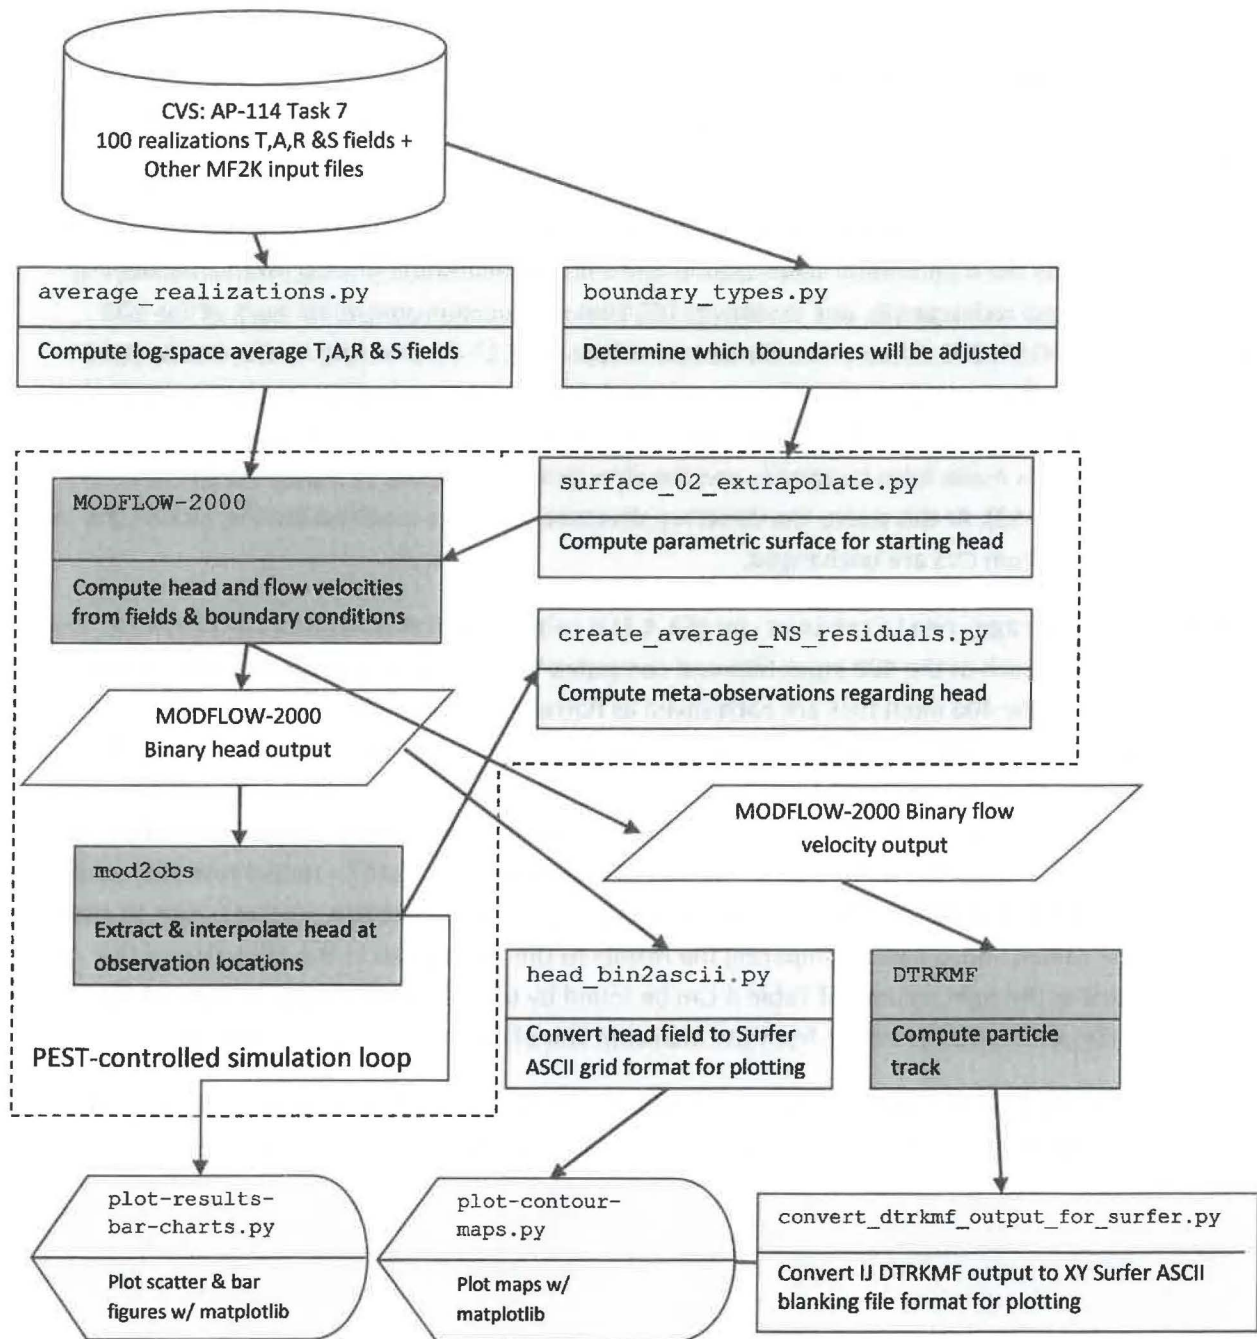

Figure 8. Process flowchart; dark gray indicates qualified programs, light gray are scripts written for this analysis
Figure 8 gives an overview of the driver script `checkout_average_run_modflow.sh` (§A-4.1); this script first exports the 4 parameter fields used in the TFIELDS calibration process (transmissivity (T), anisotropy (A), and recharge (R), and storativity (S)) from CVS version control for each of the 100 realizations of MODFLOW, listed in the file `keepers` (see lines 17-26 of script). In the steady-state simulations done for this report, the S field is not used. Some of the realizations are inside the `Update` or `Update2` subdirectories in CVS, which complicates the directory structure. An equivalent list `keepers_short` is made from `keepers`, and the directories are moved to match the flat directory structure (lines 31-53). At this point, the directory structure has been modified but the MODFLOW input files checked out from CVS are unchanged.